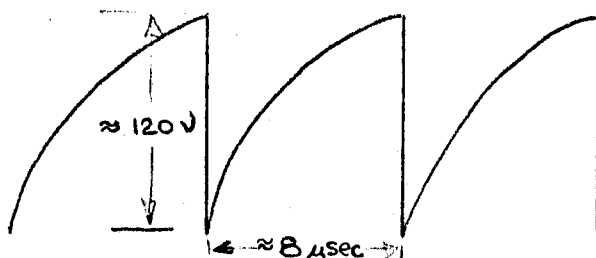

Fig. 1
- Rotate the Avalanche Volts pot ccw until the Avalanche free-runs, denoted by a signal rate of approximately 100 kc. Back up the Avalanche Volts from this free-running point (approx. 10°cm). See Fig. 1.